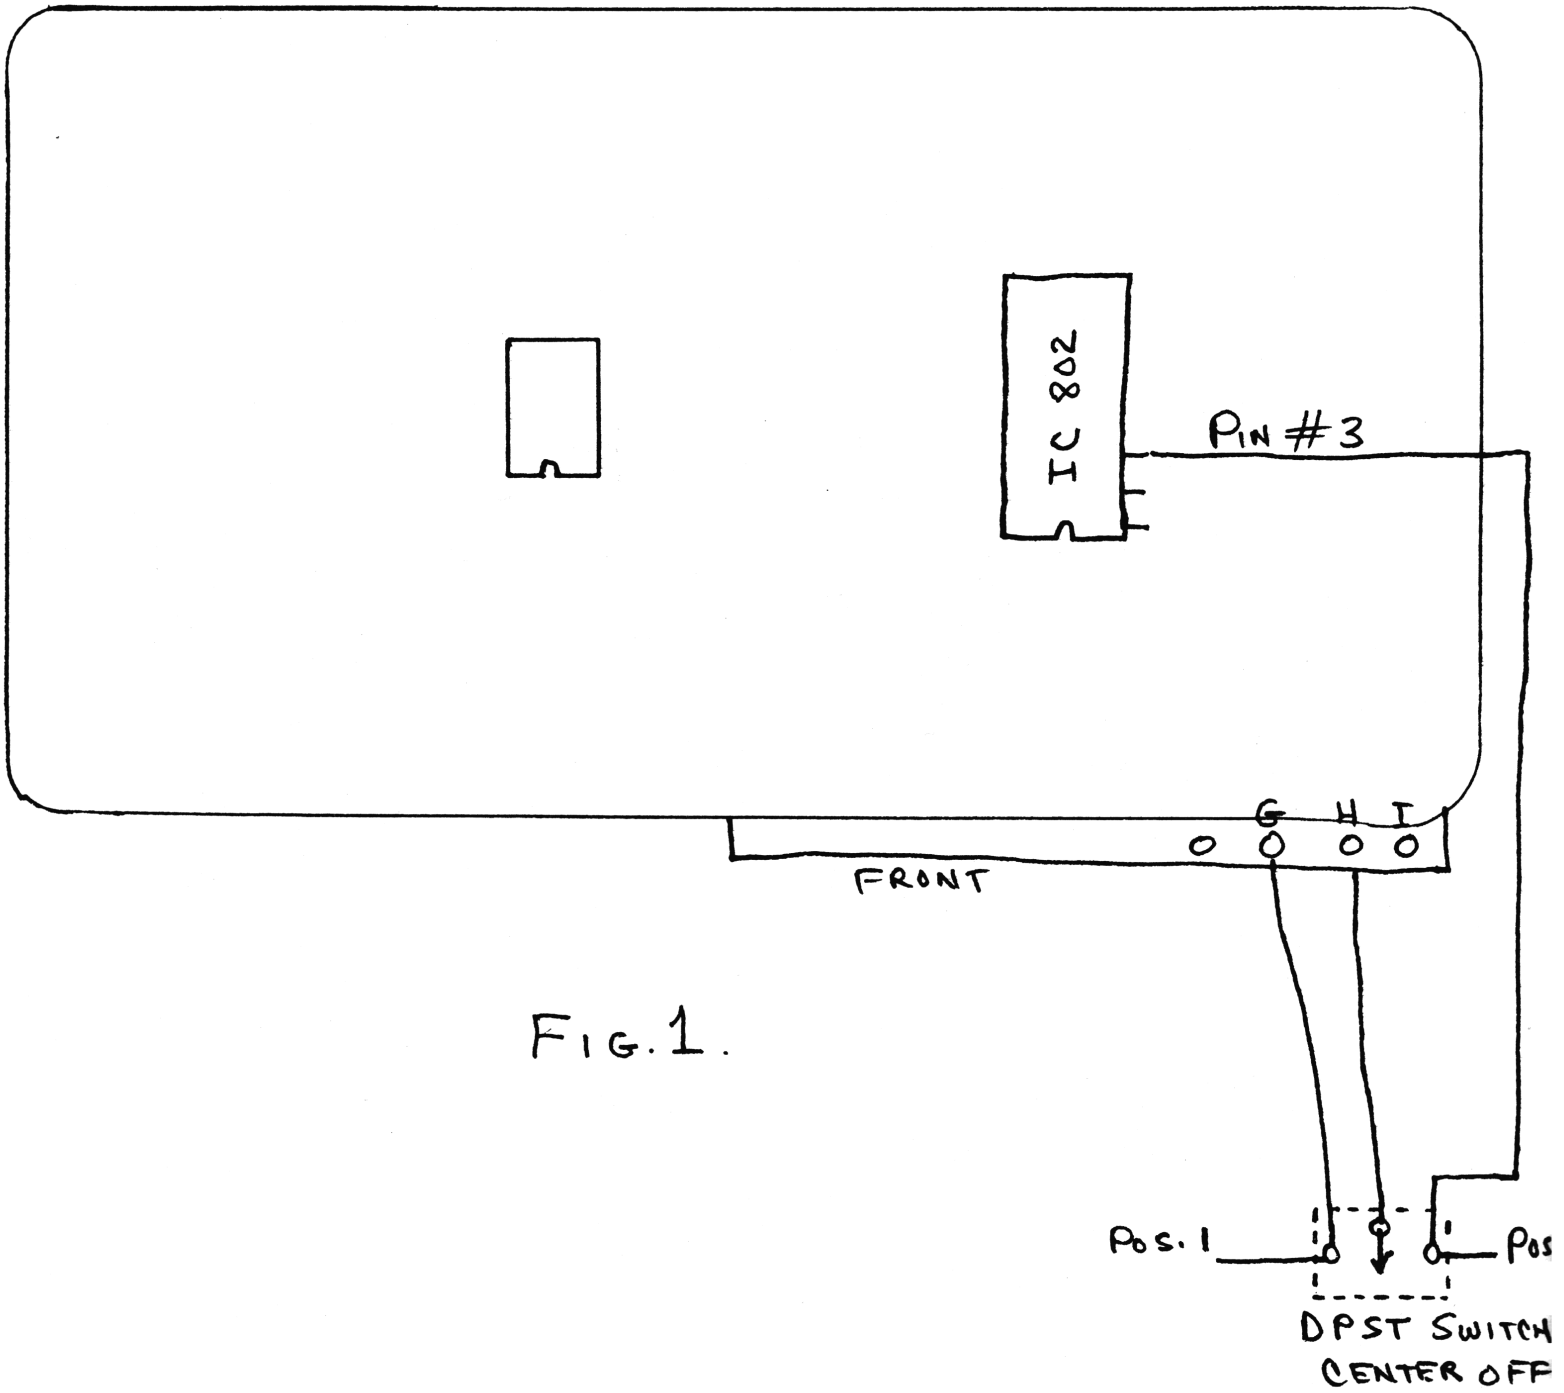

FIG. 1
7. Jumper terminals 1 and 2 on digital block. (See Fig. 1)
- Step 4. Install X-4 into the S-15 next to the existing crystals. (See figure 1.)
- Step 5. Now position the S-15 IC towards the rear of the cabinet and plug the two bare leads in the two holes left by the removal of X4 and solder. Caution should be exercised to keep these leads as short as possible to eliminate off frequency operation. (See figure 1.)
- Step 6. Connect the red lead to pin 9 of IC2 MB8719. (See figure 1.)
- Step 7. Solder the ground strap to top of L-18. (See figure 1.)